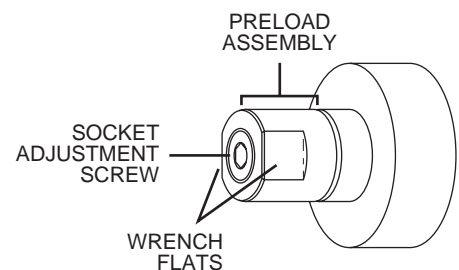

Figure 1
- Unscrew the preload assembly from the valve body. Wrench flats are provided for this purpose. (**Figure 1**)